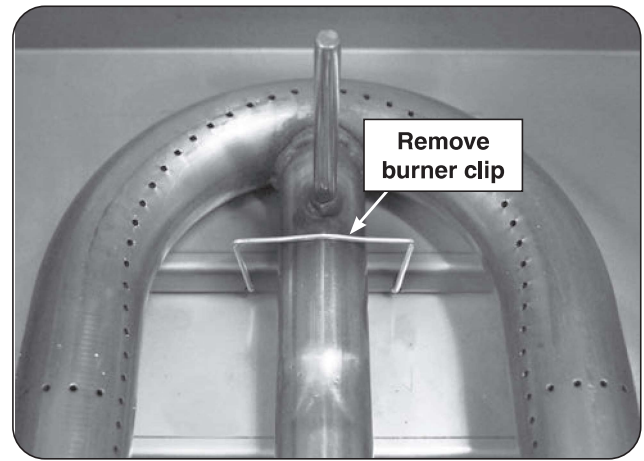

Fig. 30-1 Main burner removal
2. Locate the burner clip (located over the rear center tube of the burner) and slightly pinch and remove the clip from the burner support. See Fig. 30-1.